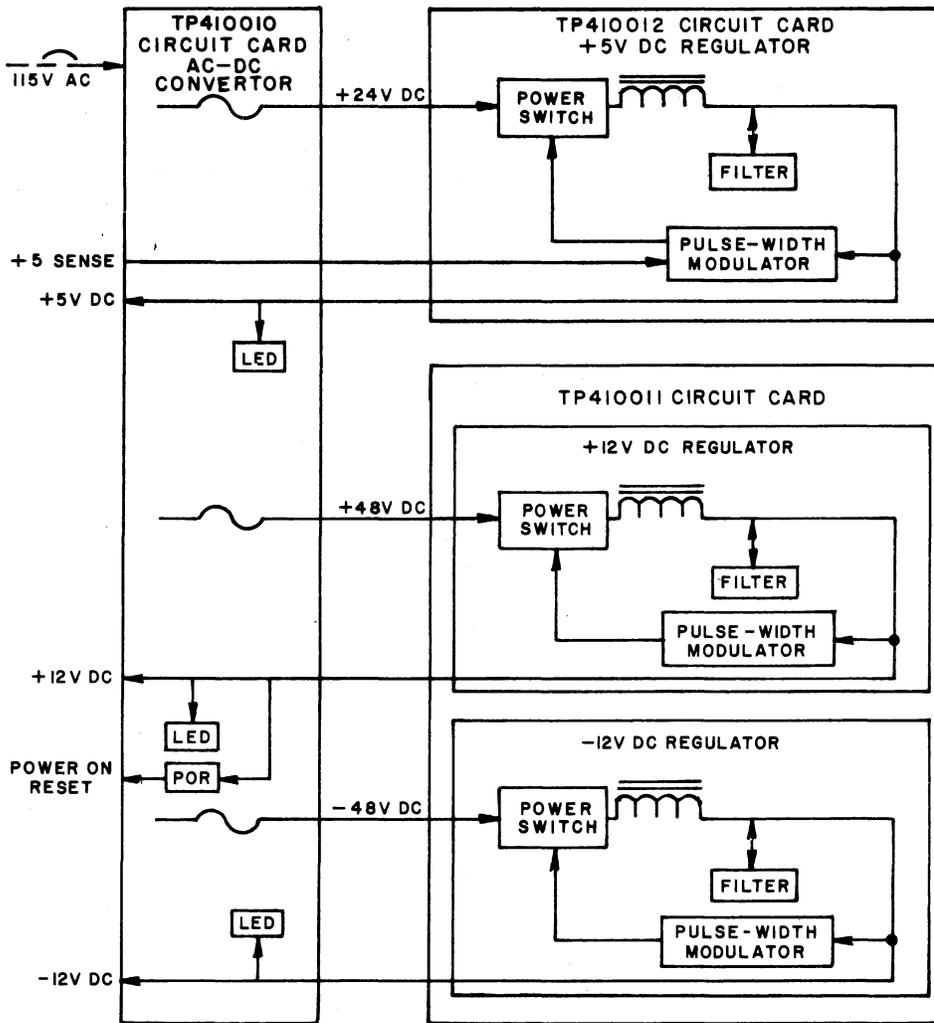

Fig. 7—Block Diagram of 40PSU102 Power Supply
B. 40PSU102 Power Supply (Fig. 7)